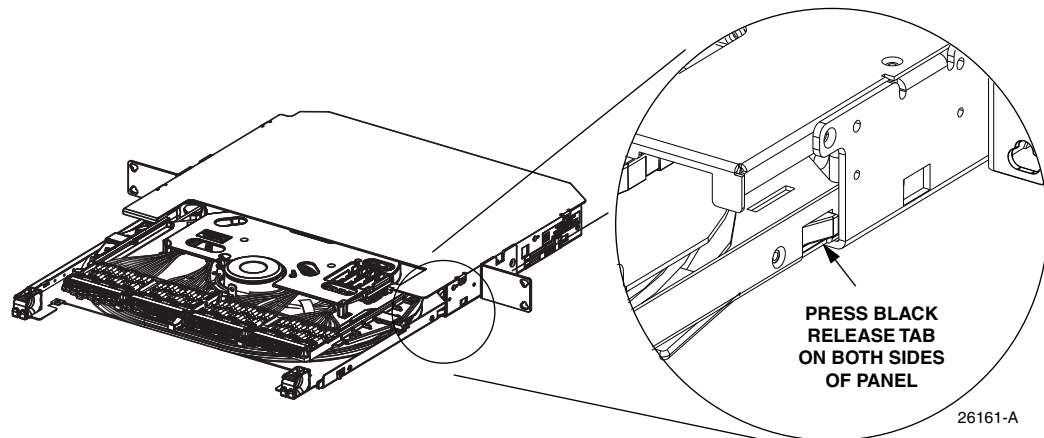

Figure 33. Pressing Black Release Tabs
3. Press the black release tabs on both sides of the panel, as shown in Figure 33, and then continue sliding the RapidReel cable spool tray into the mounting slot until it locks into place.